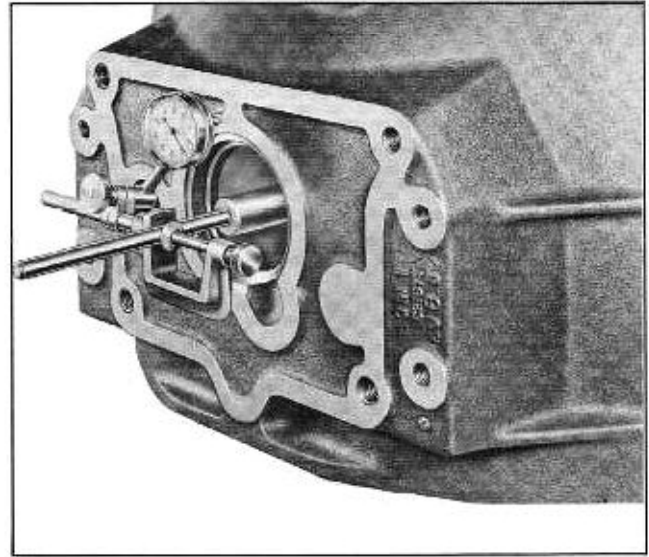

Fig. 7-35 Dial Indicator in Place to Check Face
- a. Change indicator location so stem of indicator contacts rear face of flywheel housing $\frac{3}{4}$ " from edge of hole (or $2\frac{3}{8}$ " radius from center of hole) as shown in Fig. 7-35.